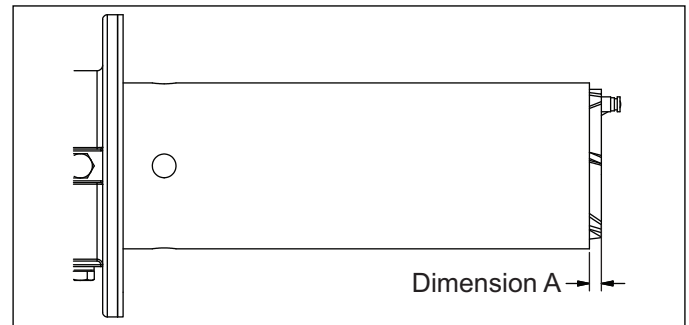

Figure 3.1. Nozzle Adjustment
1. Remove the spark rod (3) or (3a) and flame rod (3) if applicable.
2. Remove the four washers and bolts (1).
3. Pull the rear cover (2) far enough away from the housing (4) to get access to the lock nut (5).
4. Loosen the lock nut (5).
6. Hold the rear cover (2) in position and screw the nozzle in or out to adjust dimension A. See Figure 3.1.
7. Carefully pull the rear cover (2) and nozzle assembly out of the housing (4).